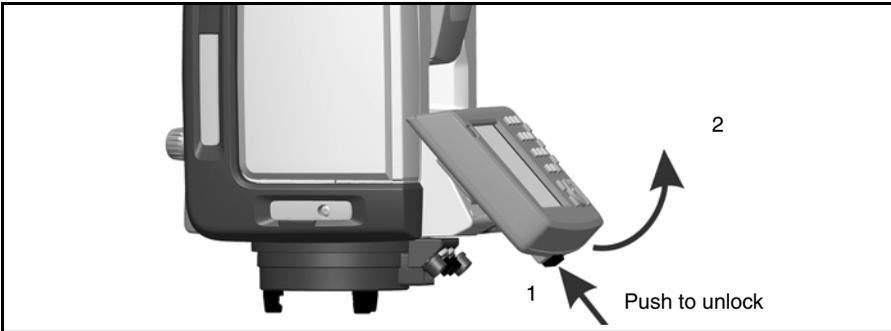

Figure 4.36 Detaching the Trimble CU
1. Push the lock release button on the bottom of the Trimble CU, Figure 4.36 (1)
2. Lift the bottom of the Trimble CU away from the instrument, Figure 4.36 (2)